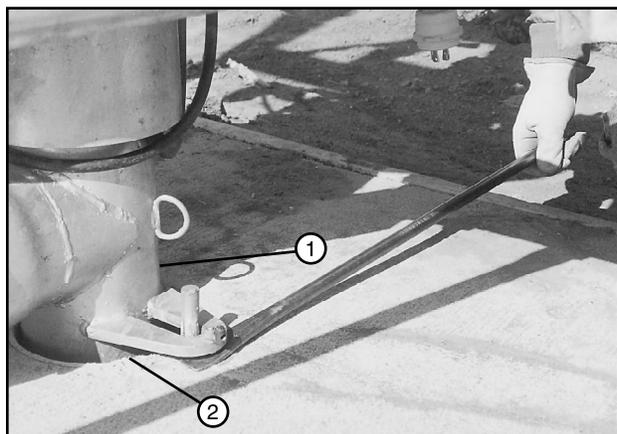

Figure 38-3 1. Riser Pipe
7. Use the winch to raise the riser pipe out of the anchor pipe. It may be necessary to pry the riser from the anchor pipe. See figure 38-3.